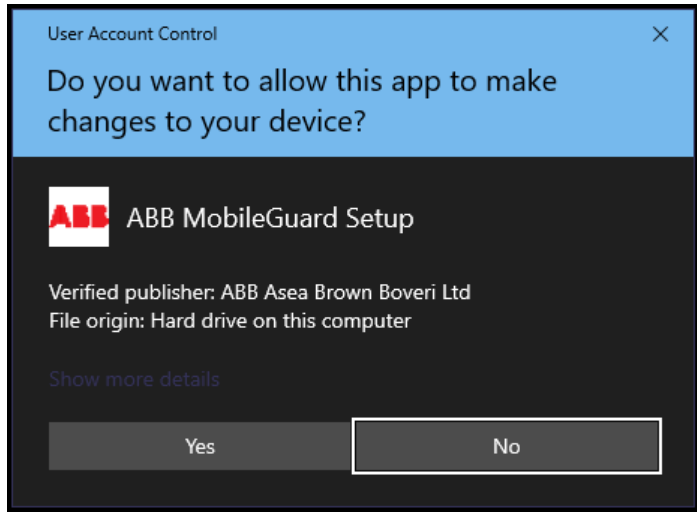

Figure 1 ABB MobileGuard Setup Screen
- 2 The *ABB MobileGuard Setup* screen appears: Click the **Yes** button to allow the installation to proceed. (See Figure 1.)